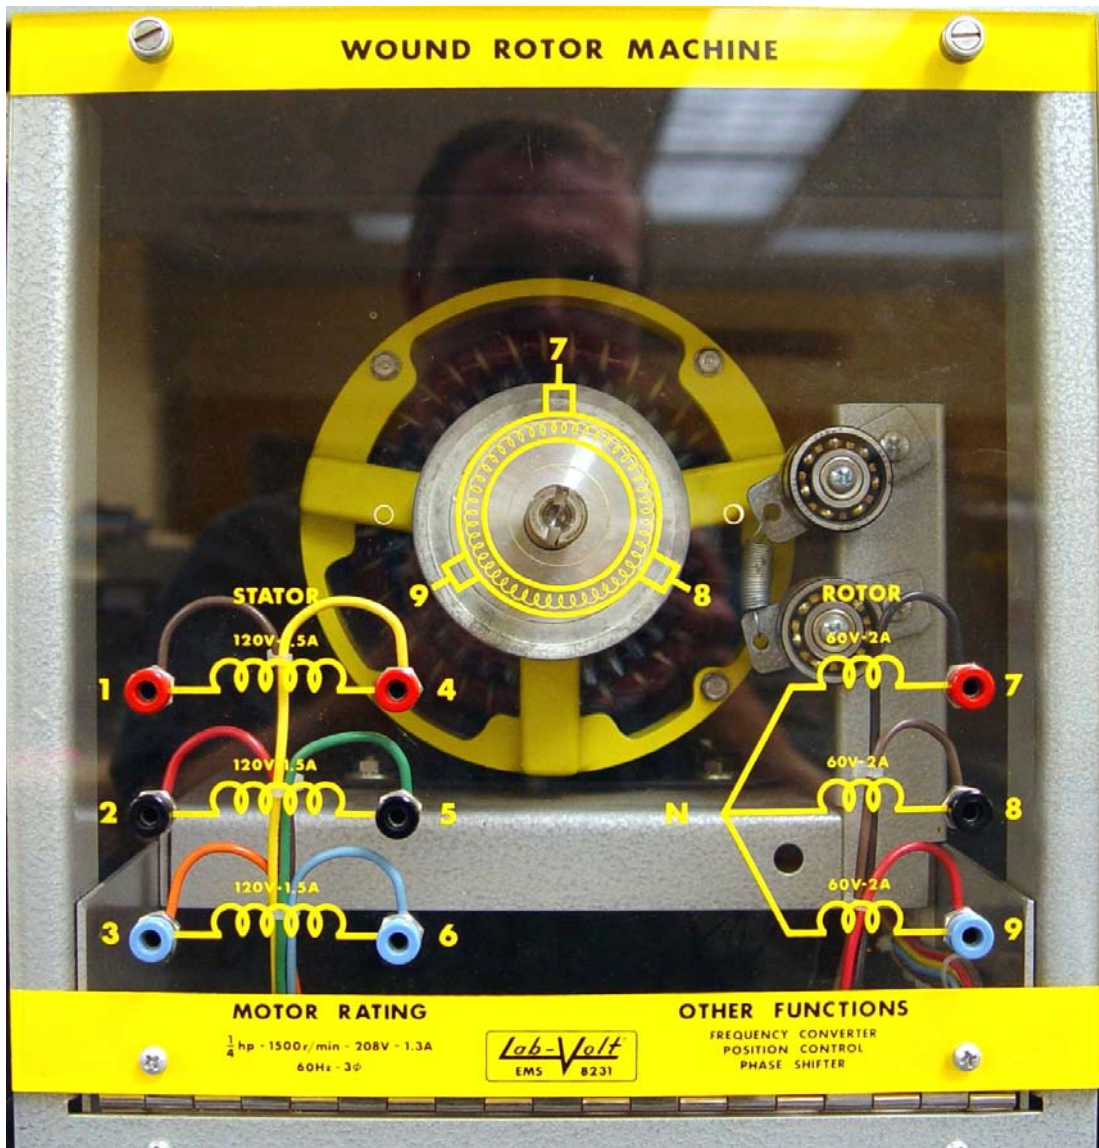

Figure 13-1
- 1) Examine the construction of the wound rotor induction motor (use Figure 13-1 for reference).